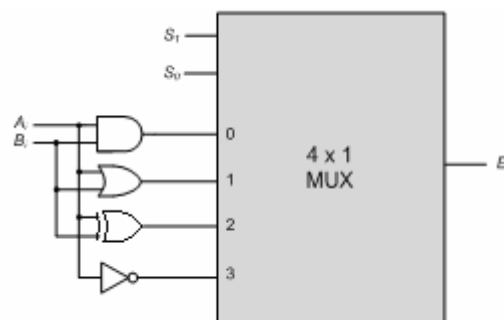

Figure 5-2 : Circuit diagram of the 2-bit logic circuit
The ALU, logic circuit performs the basic logic micro operations: NOT, AND, OR and XOR. From these four micro operations all known logic micro operations can be derived. Figure 5-2 shows the logic diagram for one stage of logic circuit. The four gates generates the four logic operations and the multiplexer select the desired operation as shown in Table 5-2.
2. Derive the wiring diagram for the logic diagram shown in Figure 5-2.